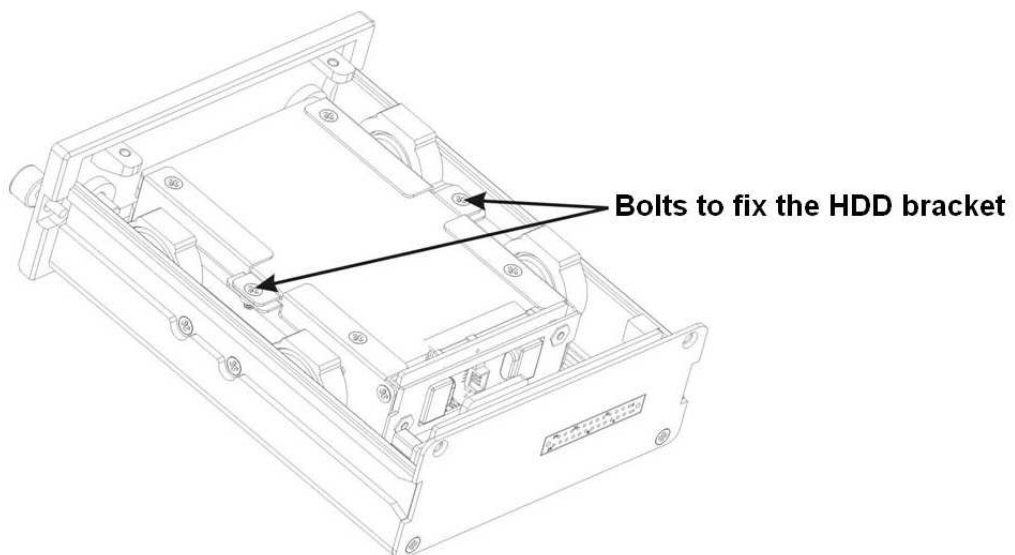

Figure 3-5
5) Now you can install HDD bracket. After you install the HDD(s), put the HDD bracket to the HDD box and secure the two bolts of the HDD bracket. See Figure 3-5.